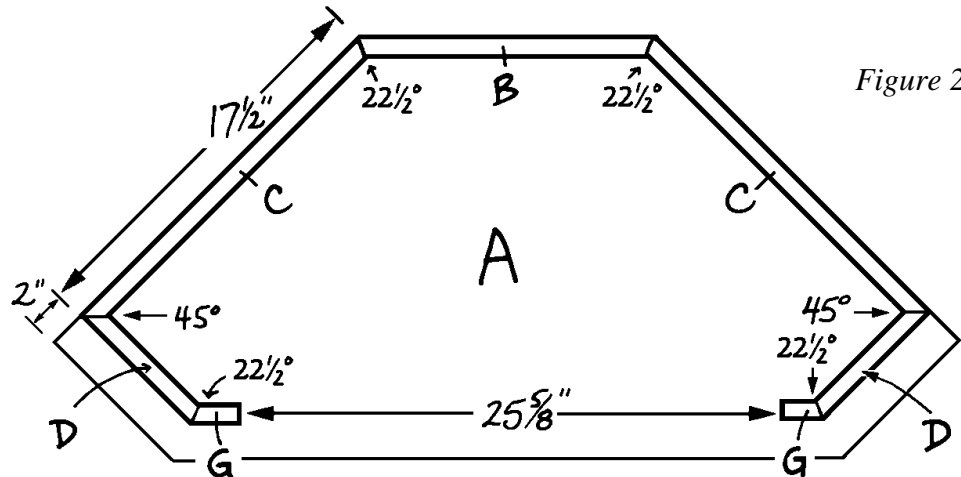
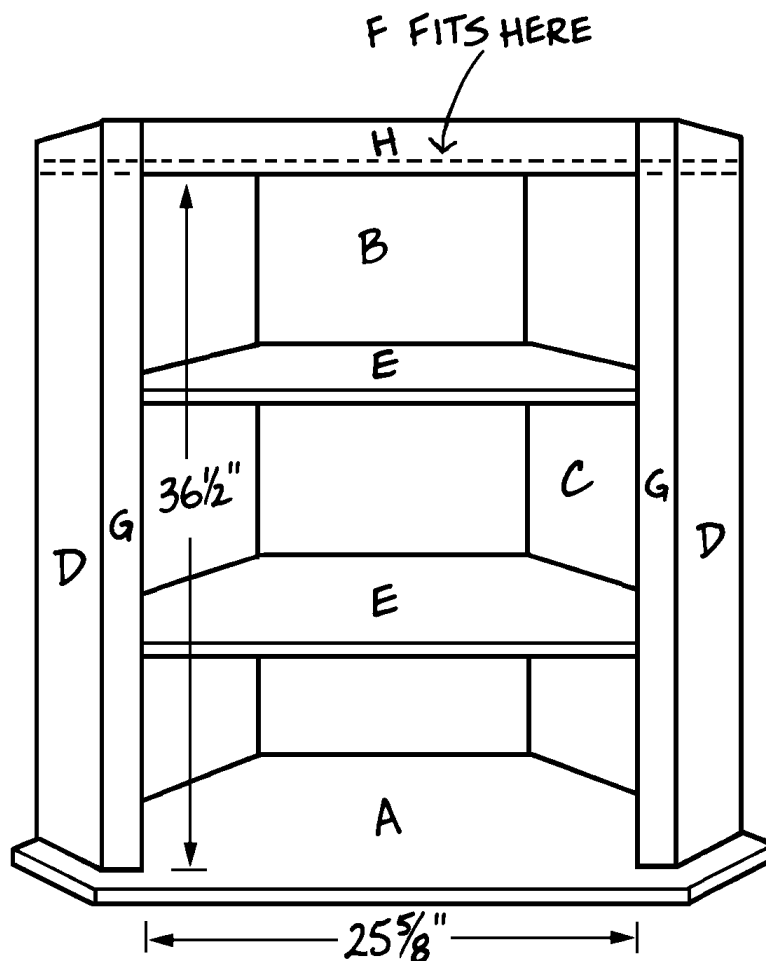

Figure 2
Figure 3
2. Cut one 13-1/2" x 40" upper back (B) from 3/4" thick plywood.
3. Bevel both 40"-long edges of the upper back (B) at 22-1/2" degrees. *Figure 2* shows the angle cuts for all of the beveled edges of the upper cabinet back and sides.
4. Cut two upper sides (C) from 3/4" thick plywood, each measuring 17-1/2" by 40".
5. Bevel one of the 40"-long edges of each upper side (C) at 22-1/2 degrees and bevel the opposite edge at 45-degrees as shown in *Figure 2*.
6. Cut two upper fronts (D) from 1 x 6 pine, each 40" long.
7. Bevel one of the 40"-long edges of each of the upper fronts (D) at 22-1/2 degrees. Bevel the opposite edge at 45 degrees.
8. The assembly of the upper cabinet is shown in *Figures 2 and 3*. You would probably be wise to enlist the assistance of a willing helper (or two) to accomplish this task. Study both diagrams to familiarize yourself with how the pieces go together. Assembly won't be the best of times if you have to say, "hand me that book again—how does it fit together?"
As shown in *Figures 2 and 3*, the upper back (B), upper sides (C) and upper fronts (D) stand on end on top of the upper floor (A). The upper back (B) is set flush with the 13-1/2" edge of the upper floor (A), with its narrower face on the inside of the cabinet. The upper sides (C) are flush with the 19-1/2" edges of the upper floor (A), and their 22-1/2-degree beveled edges fit against the matching beveled edges of the upper back (B). Notice, however, that the 178-1/2"-long end of each upper side (C) is 2" shorter than the corresponding 19-1/2" edge of the upper floor (A). The excess width of the upper floor (A) creates a small "shelf" between the upper and lower cabinet assemblies (see *Figure 3*). This becomes an important design element in the finished project.
9. Fit the 22-1/2-degree beveled edge of one upper side (C) against the matching beveled edge of the upper back (B), positioning the side (C) so that its outer face is flush with the edge of the upper floor (A). Glue the parts together and insert 1-1/4" screws through the upper floor (A) and into the edge of the upper side (C), spacing the screws about 3" apart. Then insert 3d finishing nails through the bevel in the upper back (B) and into the beveled edge of the upper side (C), spacing the nails about 4" apart.
10. Repeat Step 9 to attach the remaining upper side (C) to the upper floor (A) and the upper back (B).
11. The next step is to add the two fronts (D), using *Figure 2* as a guide. Note that the 45-degree beveled edge of each front (D) fits against the matching bevel on the adjacent upper side (C). Glue the parts together and insert 1-1/4" screws through the upper floor (A) into the edges of the upper fronts (D), spacing the screws about 3' apart. Secure the bevels with 3d finishing nails spaced about 4" apart.
- Cut two 40"-long upper vertical facers (G) from 1 x 4 pine.
- Rip each of the upper vertical facers (G) to 2-1/4" in width.
3. Bevel one 40"-long edge of each upper vertical facer (G) at 22-1/2 degrees, as shown in *Figure 2*.
4. To avoid later problems with the doors, perform this next step without using any glue. Using *Figures 2* and *3* as guides, attach one upper vertical facer (G) to the left upper front (D), the two upper shelves (E), and the upper top (F). Note that the 22-1/2-degree bevels on the upper vertical facer (G) and the upper front (D) face each other. Secure the meeting beveled edges of the upper front (D) and the upper vertical facer (G) by driving two 3d finishing nails just far enough in to hold the piece in place.
5. Repeat Step 4 to attach the remaining upper vertical facer (G) to the right-hand side of the cabinet assembly, again omitting the glue.
6. Check the width of the opening between the two upper vertical facers (G) along the exposed edge of the top (F). Also measure the width of the opening across the middle and bottom. The opening should measure exactly 25-5/8", or the doors will not fit properly. To adjust the opening, remove the two upper vertical facers (G) and alter them as necessary. Then glue the adjusted facers in place and insert 1-1/4" screws through the upper floor (A) and into the bottom edges of the upper vertical facers (G). Secure the meeting beveled edges of the upper front (D) and the upper vertical facer (G) with 3d finishing nails spaced about 6" apart. Also drive nails through the facers (G) and into the edges of the shelves (E) and the upper top (F).
7. Cut one 25-5/8"-long upper horizontal facer (H) from 1 x 4 pine.
8. Fit the upper horizontal facer (H) between the two upper vertical facers (G) and position it so that its bottom edge is flush with the lower face of the upper top (F). Drive two 3d finishing nails through the upper horizontal facer (H) into the edge of the upper top (F), hammering them in only far enough to hold the piece in place.
9. Now measure the opening from top to bottom on the left and right sides and in the middle. It should measure exactly 36-1/2", as shown in *Figure 3*. If necessary, remove the upper horizontal facer (H) and alter it so that the opening conforms to these measurements.
10. Replace the upper horizontal facer (H), glue it in place, and secure with 3d finishing nails placed about 3" apart and driven into the edge of the upper top (F). Also toenail through the ends of the upper horizontal facer (H) into each of the upper vertical facers (G).